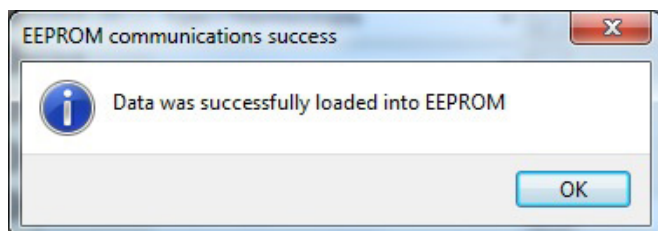

Figure 31. Message Showing Successful Load into EEPROM
- 3) Load the configuration into EEPROM: Go to “Configuration” → “EEPROM” → “Load into EEPROM.” The message in Figure 31 appears if everything worked correctly.